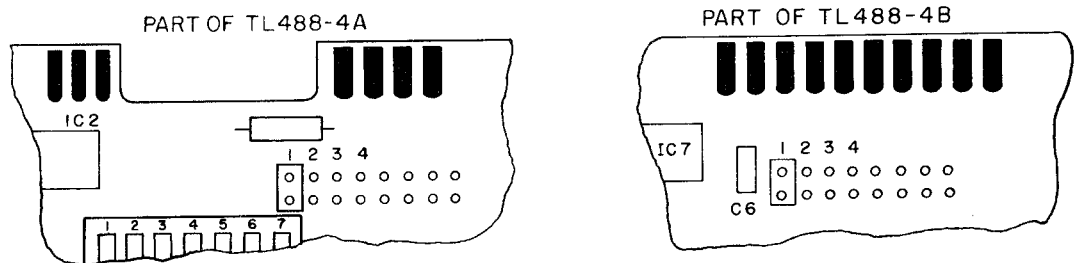

FIG. 2-3 VIEW OF TL 488-4A. (LEFT) AND TL 488-4B (RIGHT) WITH BOARD ADDRESS SELECTOR DETAIL. JUMPER IN POS. 1.
- STEP 1: Place board on a clean, cushioned surface, component side up, power supply connectors facing forward. Locate the BOARD ADDRESS SELECTOR. This selector is a jumper-type device, as indicated in FIG. 2-1 and detailed in FIG. 2-3.